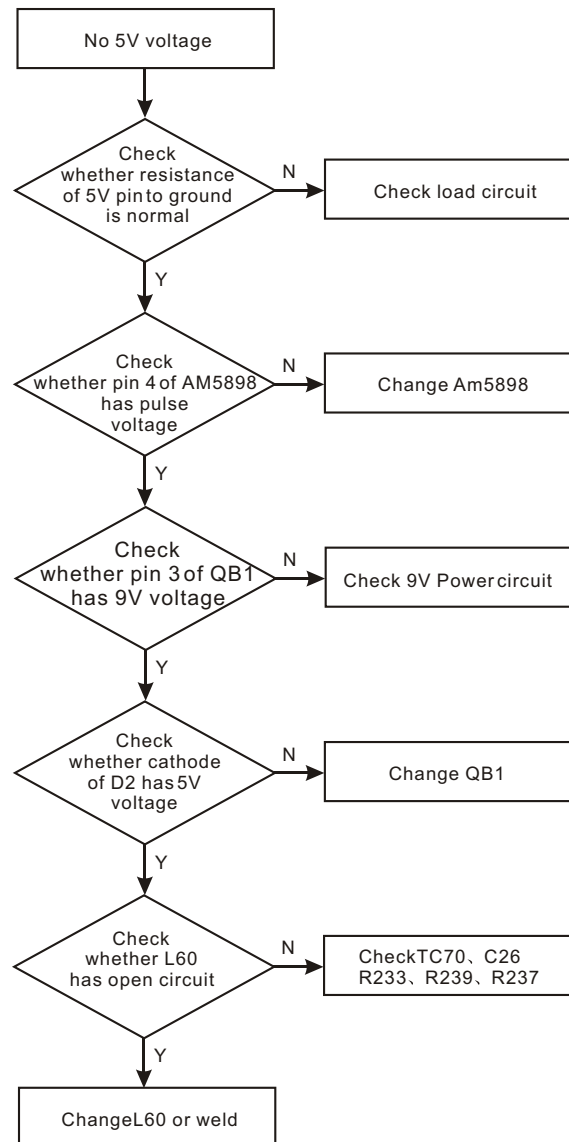

Figure 3.3.2.3 Troubleshooting flow chart for “No 5V voltage”
4. Troubleshooting flow chart for “No DV33V voltage” is shown as in the following figure 3.3.2.4: